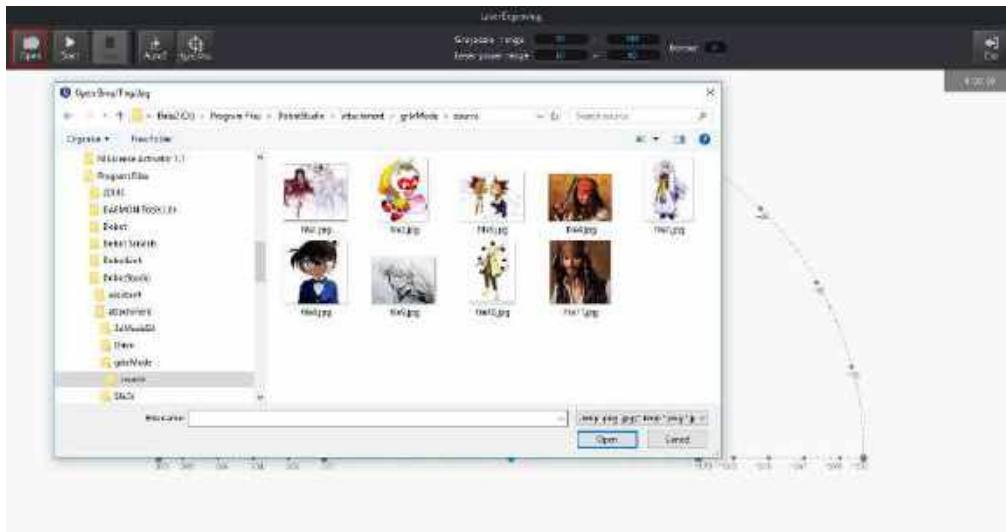

Figure 5.83 Import an image file
Step 2 Click **Open** to import an image file such as BMP, JPEG, or PNG, as shown in Figure 5.83.